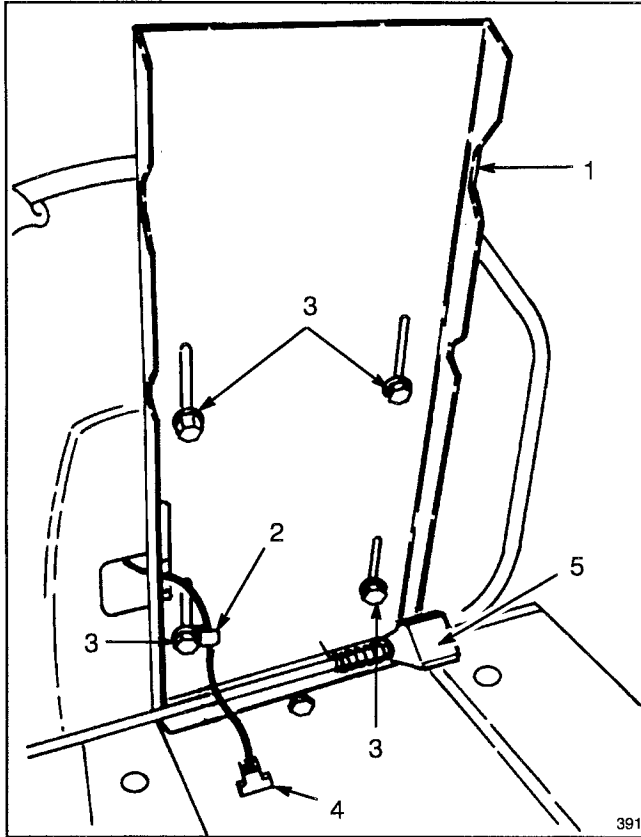

Figure 1
1. Position seat onto seat base, inserting seat switch cable thru slot and aligning mounting holes (Fig. 1).
2. Slide wire clamp over seat switch wire (Fig. 1).
3. Using left front mounting slot in seat base, loosely secure wire clamp and seat to seat base with a capscrew and lockwasher (Fig. 1).
1. Tip the seat up to expose battery. A seat prop latch on the underside of the seat will prevent the seat from falling rearward while working with battery (Fig. 1).